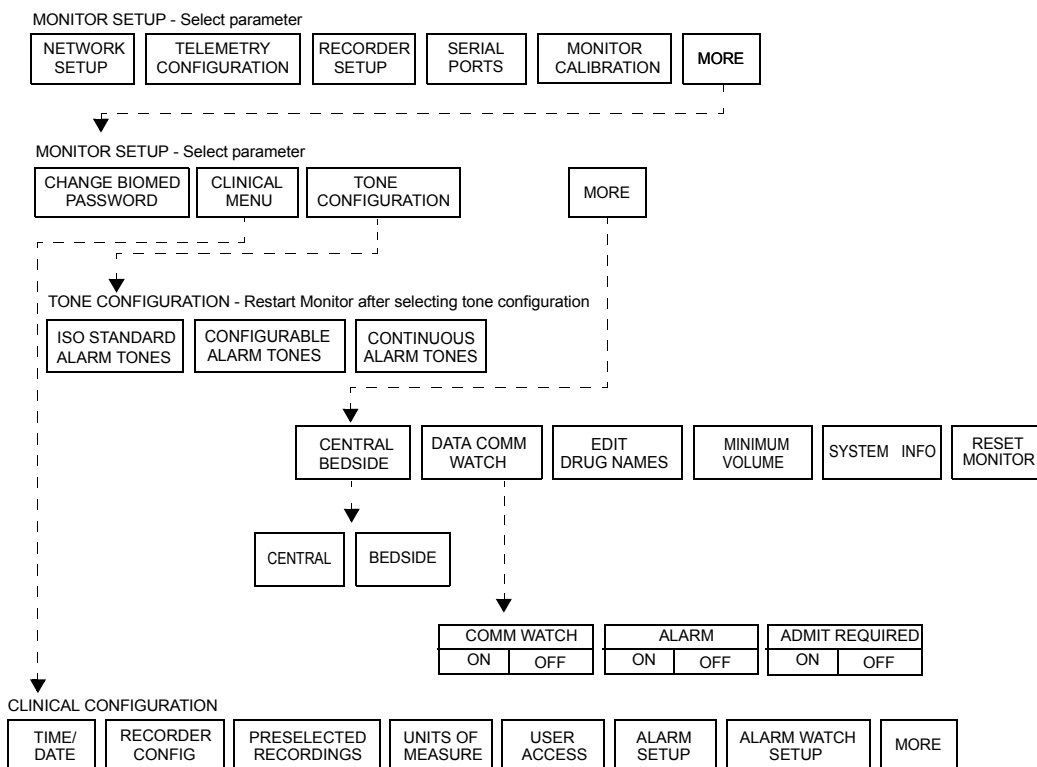

Figure 2-9: Biomed Monitor Setup menus
3. Enter the correct password (case-sensitive) to display the **Biomed Monitor Setup** menu (refer to *Figure 2-9*).